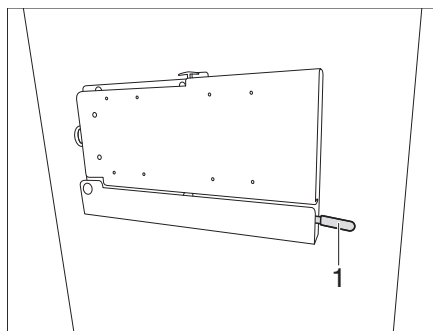

Fig. 125 Holder with jointed arm (variant 3)
- Pull down the lever (Fig. 125,1).
- Push the lever (Fig. 125,1) back up to lock.